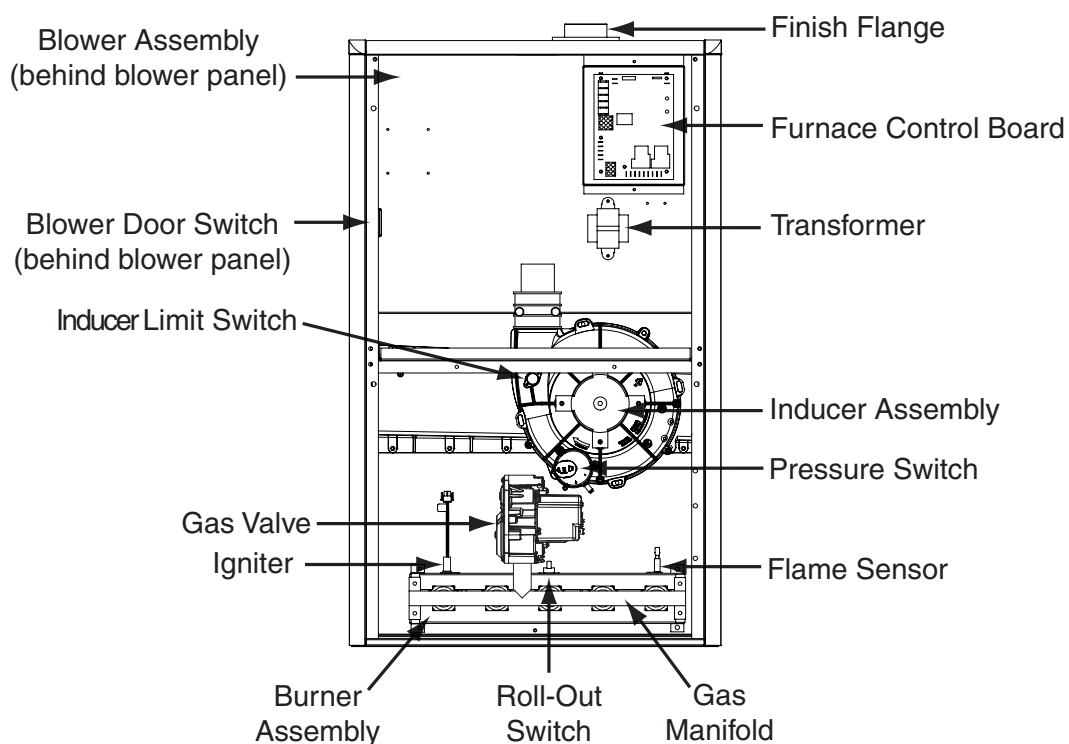

Figure 45. *SL & *SM Component Locations
- If the Inducer Blower is operating, and items above have been verified, check the Blower Limit Switch and reset if necessary. See Figure 44 \(page 56\) or Figure 45 \(page 57\) for component location.
The descriptions below are various functional components that affect the operation and shutting down of this furnace. Some of these components and their locations are shown in Figure 44 \(page 56\) or Figure 45 \(page 57\). If any component of the furnace must be replaced, use only factory authorized replacement parts specified in the Replacement Parts List provided online.